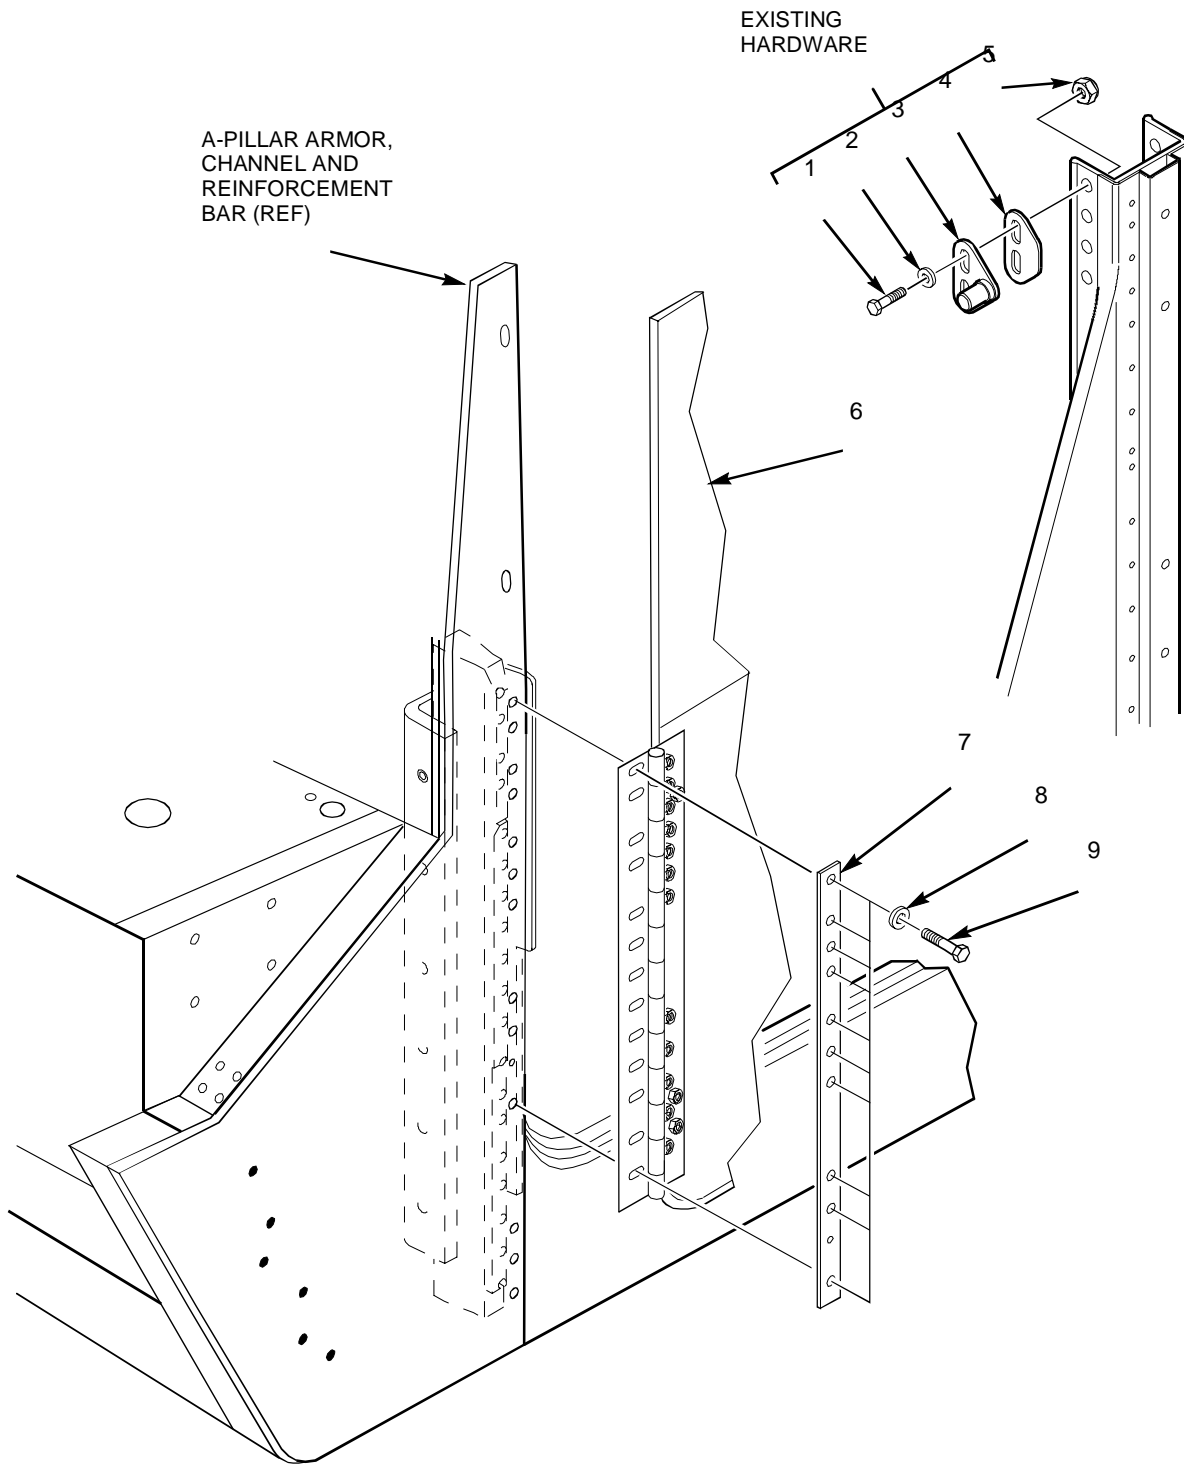

Figure 1-24. Front Door Installation (2 and 4 Door)
- 1) Install front door assembly as follows (see figure 1-24).
- a. Apply sealing compound to threads of nine capscrews (9).
- b. Install nine capscrews (9) and washers (8) through door hinge cover strip (7), door assembly with hinge (6) and A-pillar armor and vehicle, into pre-assembled left A-pillar reinforcement channel and bar assembly.
- c. Install front door striker (3) and shim(s) (4). Secure with two capscrews (1), washers (2), and locknuts (5). Torque capscrews (1) to 10 lb ft (14 N•m). Align door assembly (6) with door striker (3) as required.
- d. With door assembly (6) aligned, torque the nine door hinge capscrews (9) to 37 lb ft (50 N•m).